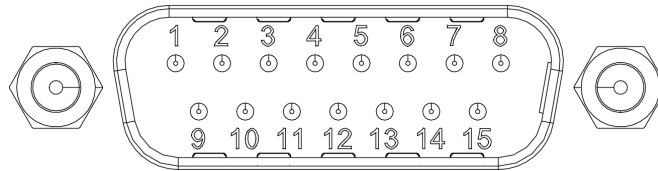

Figure 8. J300, as viewed looking at connector on unit
1. While in flight, perform a few "figure 8" patterns to allow the algorithm to gather magnetic data in all directions.